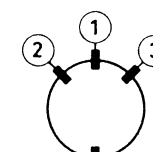

Fig. 5c
5. Now place wedge 4 as shown in Fig. 5c or 6c and press on the adhesive side firmly.